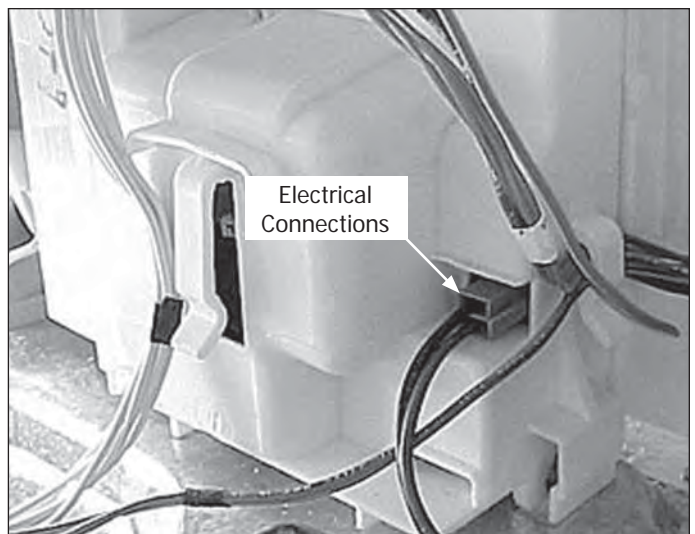

Figure 4-90.
2. Disconnect the terminal plug from the lower front. (See Figure 4-90)